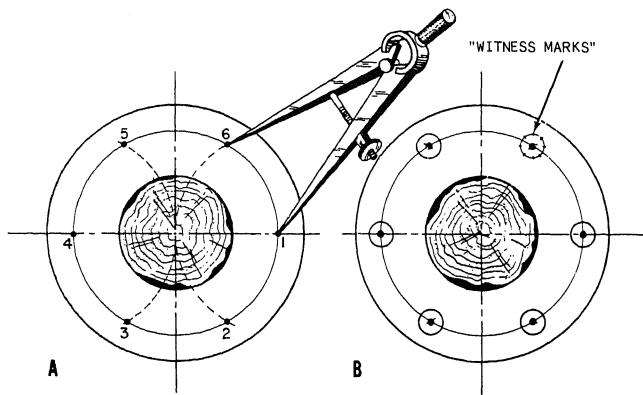

Figure 3-29.—Development of a 6-hole flange.
SIX-HOLE FLANGE.—Set your dividers exactly to the dimension of the pitch circle radius. Place one leg of the dividers on the point where the horizontal bisector crosses the pitch circle on the right-hand side of the flange, point (1) in part A of figure 3-29, and draw a small arc across the pitch circle at points (2) and (6). Next, place one leg of the dividers at the intersection of the pitch circle and horizontal bisector on the left-hand side of the flange point (4), and draw a small arc across the pitch circle line at points (3) and (5). These points, (1 to 6), are the centers for the holes. Check the accuracy of the pitch chords. To do this, leave the dividers set exactly as you had them set for drawing the arcs. Starting from the located center of any hole, step around the circle with the dividers. Each pitch chord must be equal to the setting of the dividers; if it is not, you have an
error in hole mark placement that you must correct before you center punch the marks for the holes. After you are sure the layout is accurate, center punch the hole marks and draw a circle of appropriate size around each center-punched mark and prick-punch "witness marks" around the circumference as shown in part B of figure 3-29. These witness marks will be cut exactly in half by the drill to verify a correctly located hole.